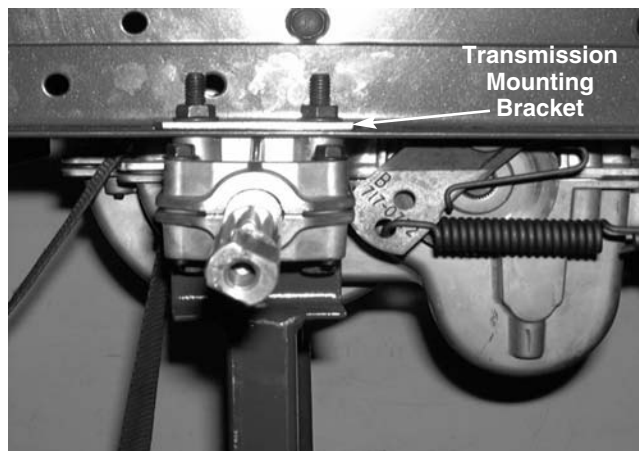

FIGURE 4.
- 10). Remove all four hex bolts and lock nuts securing the transmission to the frame using a 1/2" socket and a 1/2" wrench. See figure 4.